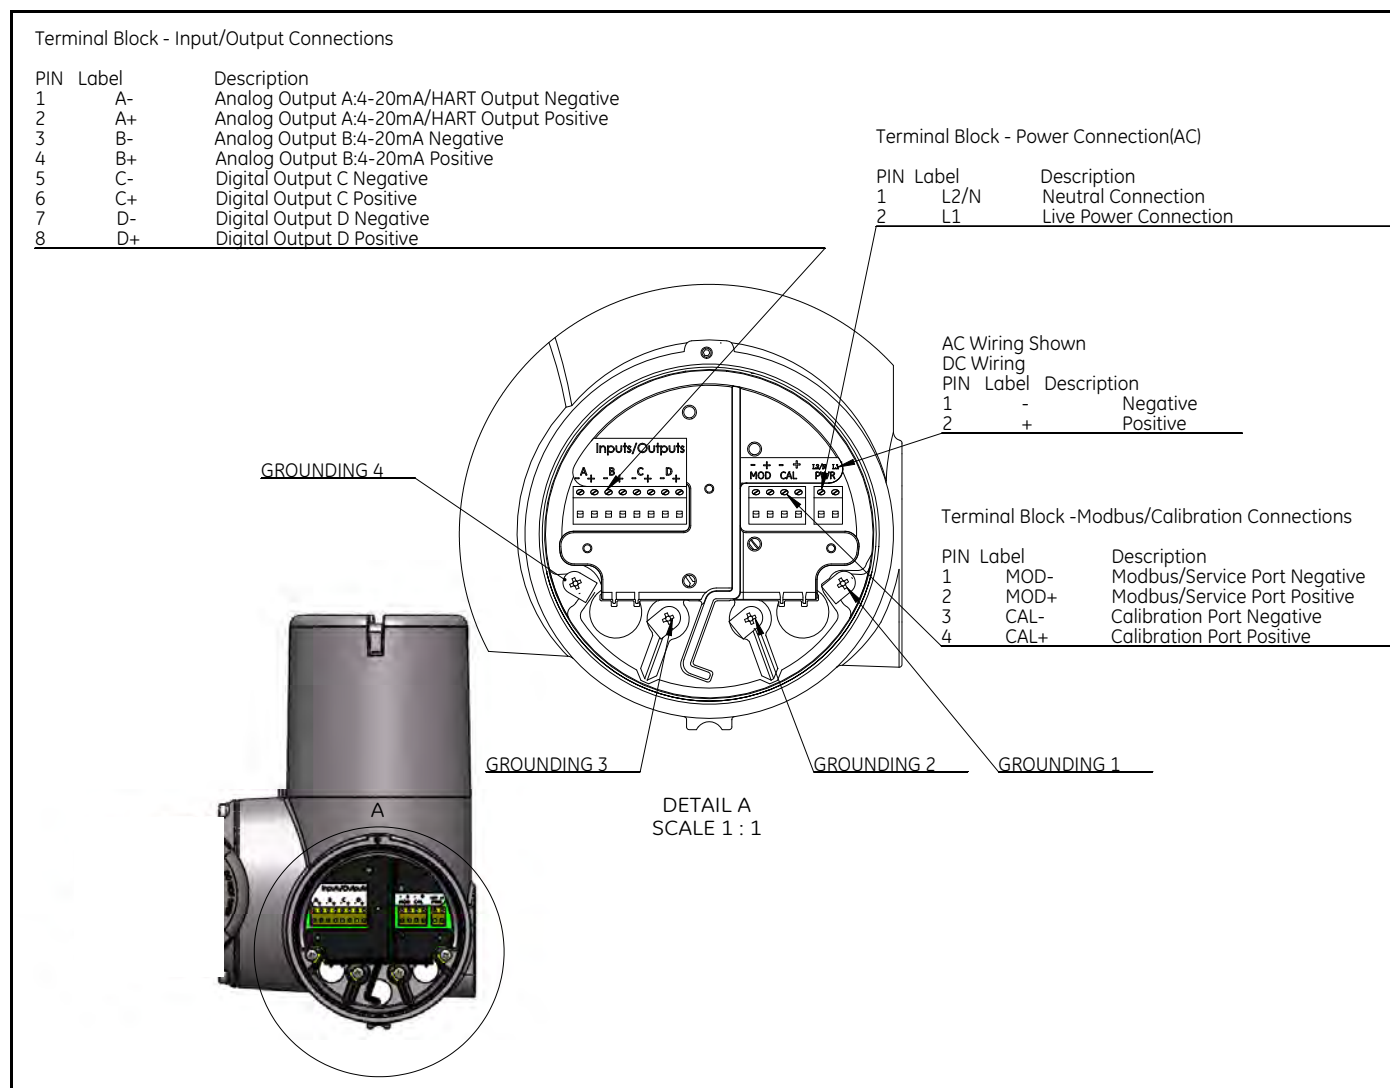
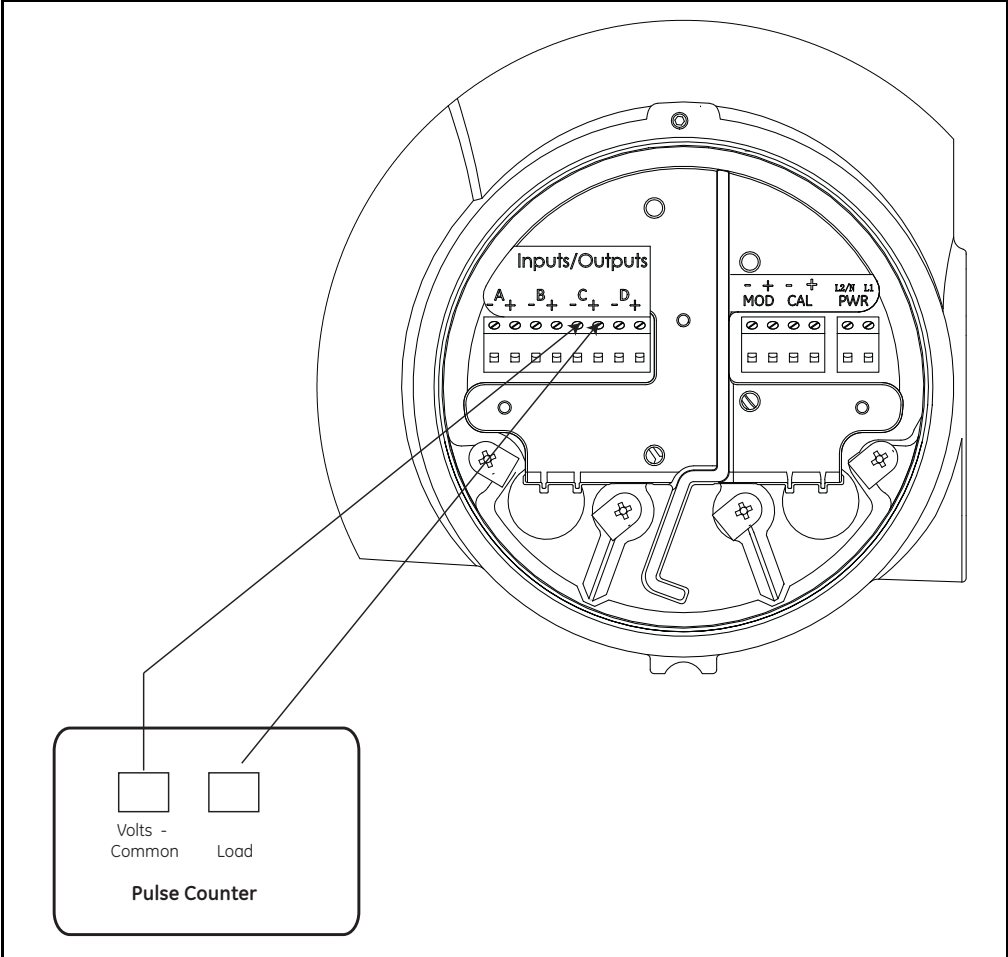
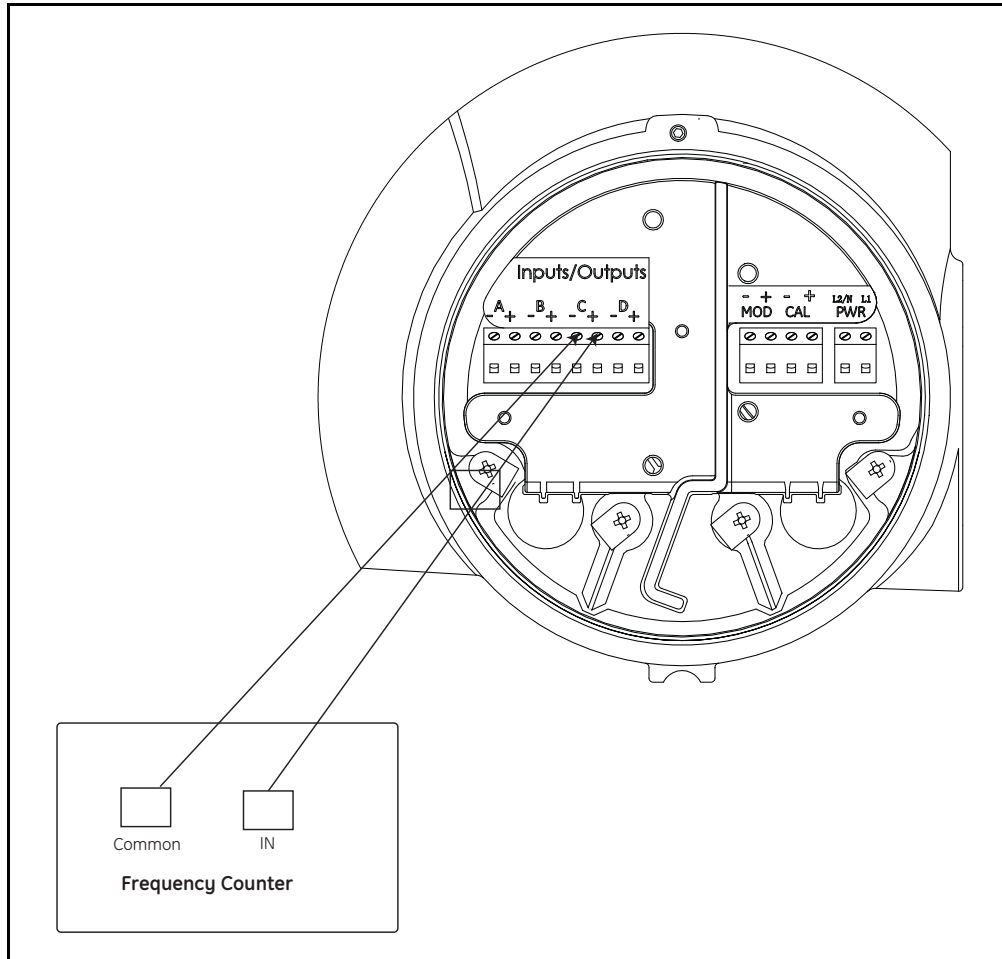
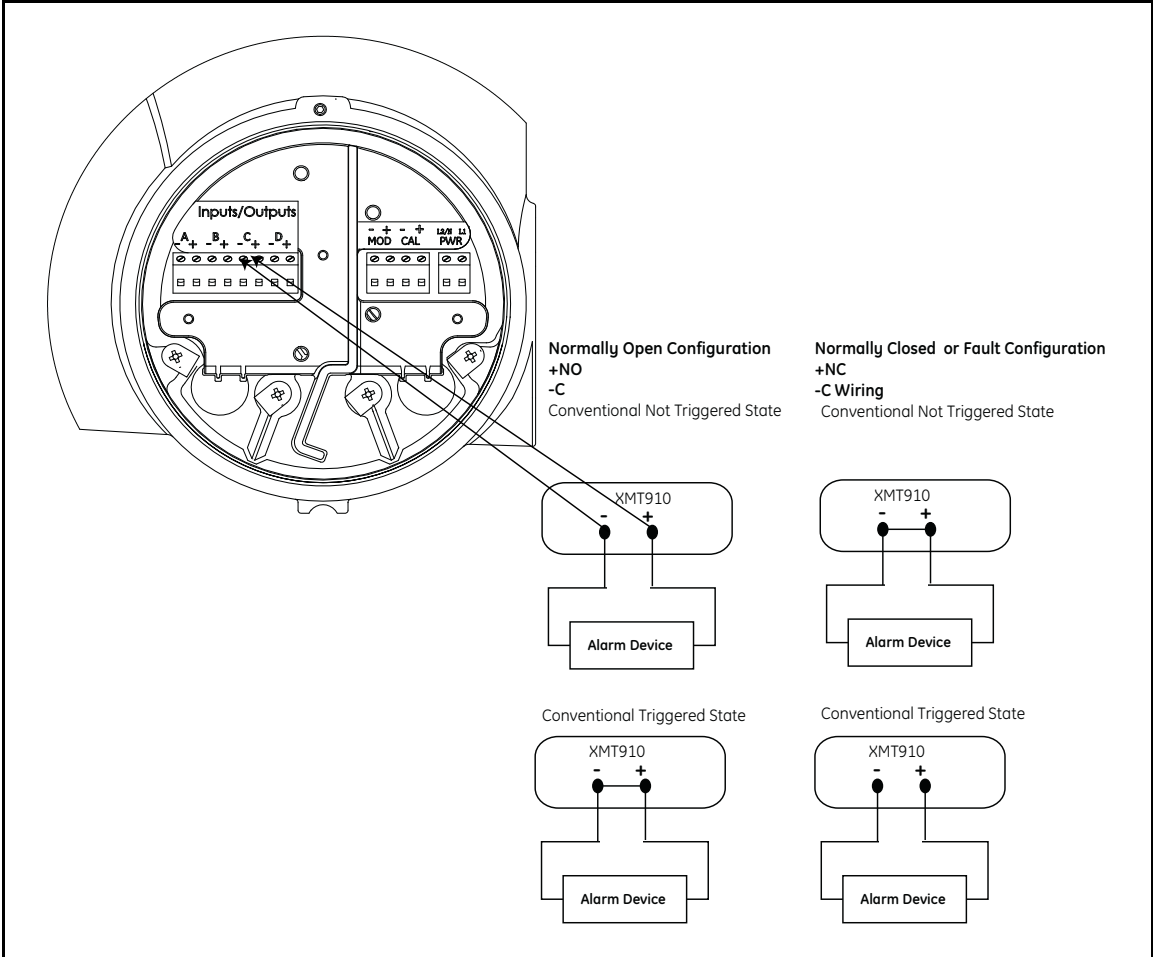

Figure 8: Wiring Diagram
Figure 9: Wiring a Totalizer (Pulse) Output
Figure 10: Wiring a Frequency Output
Figure 11: Wiring the Alarm Outputs
This section contains instructions for making all the necessary electrical connections to the XMT910 flow transmitter. Refer to *Figure 8* below for a complete wiring diagram.
WARNING! Proper grounding of the PanaFlow Z3 chassis is required to prevent the possibility of electric shock. See *Figure 8* above to locate the chassis grounding screw. All ground screws should be hand tightened only. Do not over-torque. Maximum torque is 2.5 N-m (22 in-lb).
Refer to *Figure 8 on page 7* and prepare the XMT910 for wiring by completing the following steps:
3. Locate the terminal block shown in *Figure 8 on page 7* and wire the option as indicated on the label inside the wiring cover. Secure the cable clamp.
3. Refer to *Figure 8 on page 7* for the location of the terminal block and wire the analog output as shown. Secure the cable clamp.
3. Locate the terminal block shown in *Figure 8 on page 7* and wire the digital outputs (C and D) as indicated on the label inside the wiring cover. Secure the cable clamp.
Wire this option in accordance with the connections shown on the label in the rear cover (see *Figure 8 on page 7*). *Figure 9* below shows a sample wiring diagram of a totalizer output circuit. Refer to Appendix A, *Specifications*, for the load and voltage requirements.
Wire this option in accordance with the connections shown on the label in the rear cover (see *Figure 8 on page 7*). *Figure 10* below shows a sample wiring diagram of a frequency output circuit. Refer to Appendix A, *Specifications*, for the load and voltage requirements.
In setting up an alarm relay, it may be programmed for either *conventional* or *fail-safe* operation. In fail-safe mode, the alarm relay is held at “closed” (5 VDC), except when it is triggered or a power failure or other interruption occurs. Connect each alarm relay in accordance with the wiring instructions shown in *Figure 11* below (see *Figure 8* on page 7). Refer to Appendix A, *Specifications*, for the load and voltage requirements.
To wire to this RS485 serial port, refer to *Figure 8 on page 7* and complete the following steps:
Refer to *Figure 8 on page 7* to locate the terminal blocks and connect the line power as follows:
3. Route the cable through the conduit hole and connect the line power leads to the power terminal, using the pin number assignments shown in *Figure 8 on page 7*.